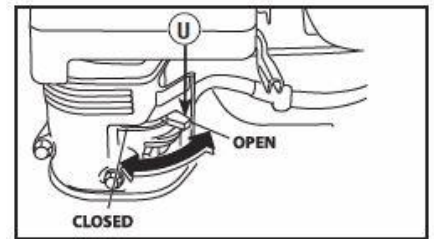

Fig. 14
8. Move choke lever (U) to "Closed" position. (See Fig. 14)